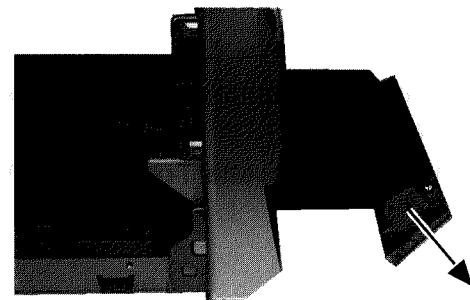

Fig.7
4. Remove the CD tray hitting(Fig.7).